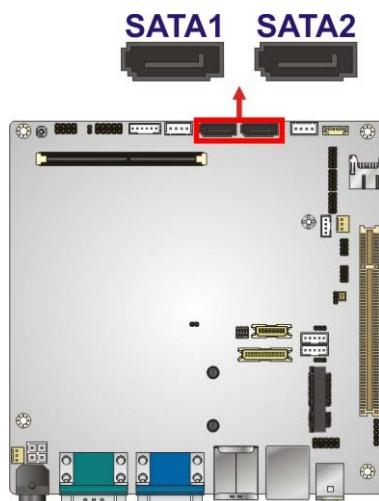

Figure 3-17: SATA Drive Connector Location
**3.2.16 SATA Drive Connectors****CN Label:** SATA1, SATA2**CN Type:** 7-pin SATA drive connectors**CN Location:** See **Figure 3-17****CN Pinouts:** See **Table 3-18**